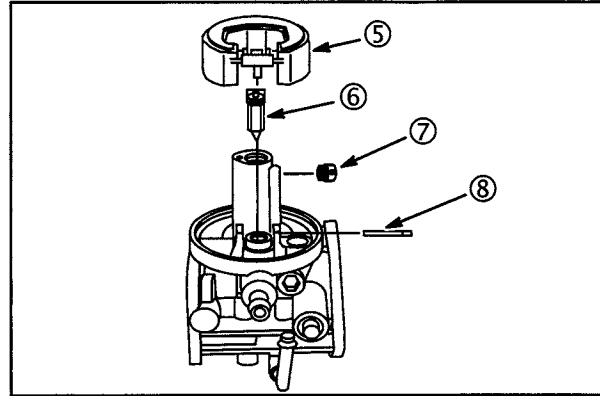

Fig. 44
2. Remove fixed main jet (7) using Screwdriver #19061, **Fig. 44**.
3. Remove float (5) and inlet needle (6).
**NOTE:** Float hinge pin (8) is swaged on one end. Drive hinge pin out from side opposite swage.